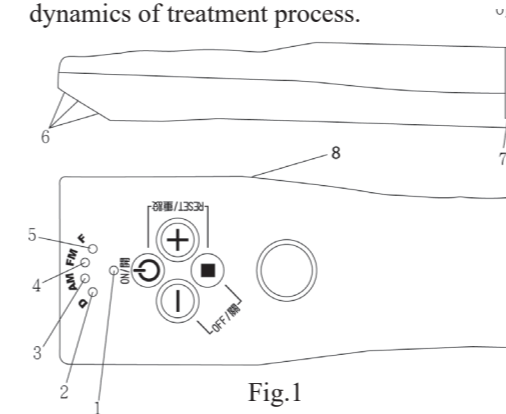

Fig.1
- 4.1. The device consists of a housing (Fig. 1) with a built-in electrode 6 located at its bottom.